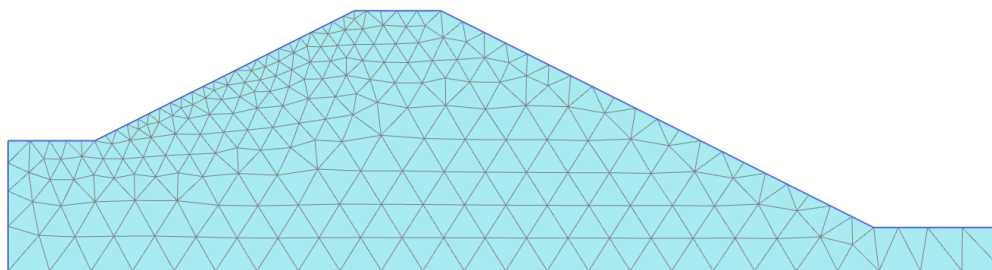

Figure 153: The generated mesh
5. Click the **View mesh** button  to view the mesh as shown in Figure 153 (on page 179).